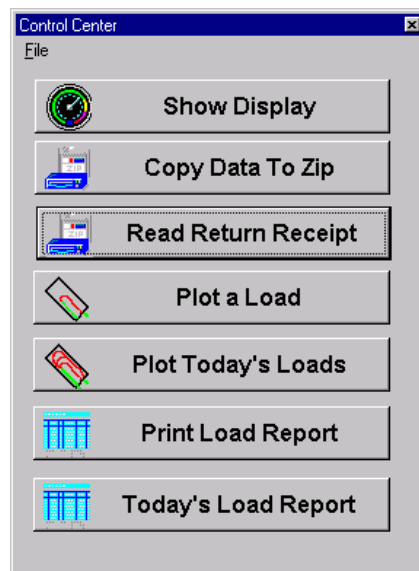

Figure 3.1 Control Center window
1. Click on ***Control Center*** in the windows start menu to bring up the control center window as shown in Figure 3.1.
3. Click on **Control Center** in the windows start menu to bring up the control center window as shown in Figure 3.1.